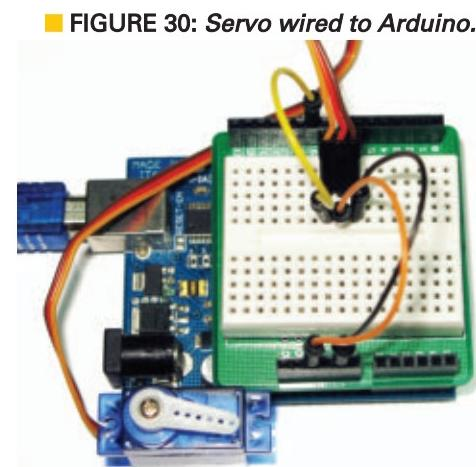

FIGURE 30: Servo wired to Arduino.
- Connect a jumper wire from the position of the mini servo yellow wire to pin 9 on the Arduino header as shown in **Figures 30, 31**, and **32**.
- Connect a jumper wire from the position of the mini servo orange wire to the 5V pin on the Arduino header as shown in **Figures 30, 31**, and **32**.
- Connect a jumper wire from the position of the mini servo black wire to the GND pin on the Arduino header as shown in **Figures 30, 31**, and **32**.